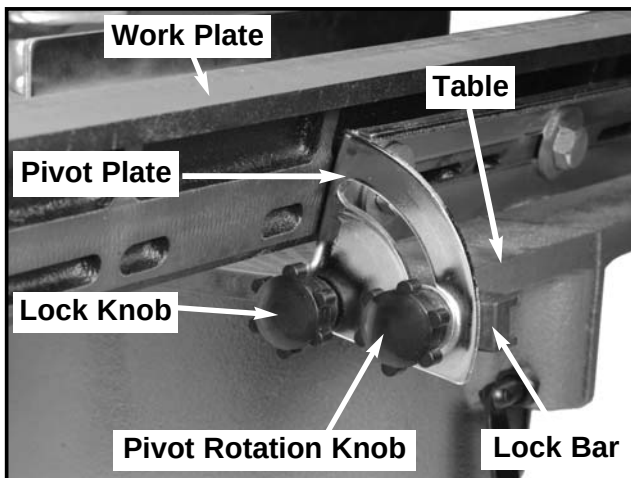

**Figure 2.** Location of plate system components.
2. Attach the lock bars to the pivot plate with the lock knobs provided. **See Figure 2.**
4. Mount the pivot plate assembly to the back of the work plate using the three (3)  $\frac{5}{16}$ " - 18 x  $\frac{1}{2}$ " hex bolts provided.
5. Turn the work plate assembly right-side-up and slide the lock bars over the sides of the grinder table as shown in **Figure 2**. It may be necessary to loosen the lock knobs part way to allow alignment of the bars to the table.